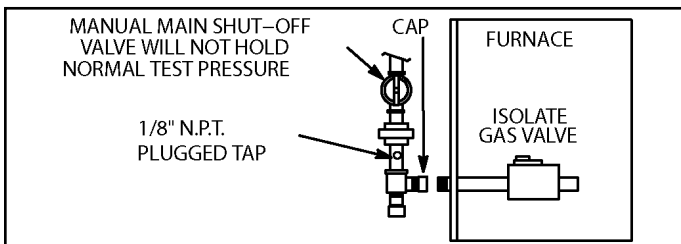

Figure 62.
5. A 1/8" N.P.T. plugged tap or pressure post is located on the gas valve to facilitate test gauge connection. See Figure 62.
When testing pressure of gas lines, gas valve must be disconnected and isolated. See Figure 62. Gas valves can be damaged if subjected to pressures greater than 1/2 psig (3.48 kPa).